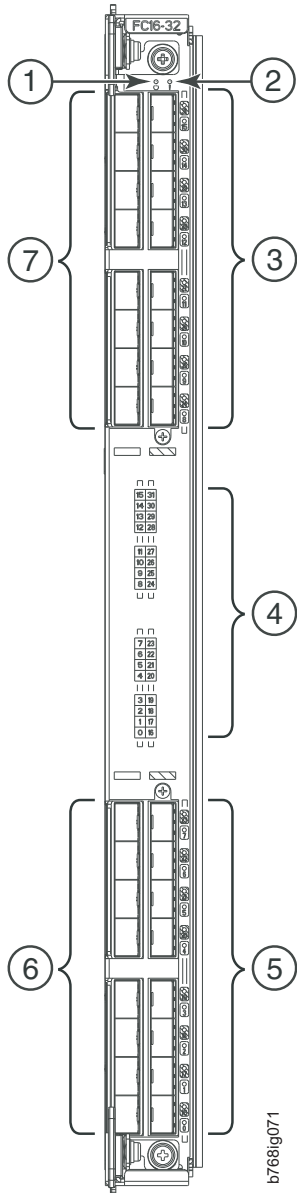

Figure 56. FC16-32 port blade
- Figure 56 on page 186 shows an FC16-32 port blade